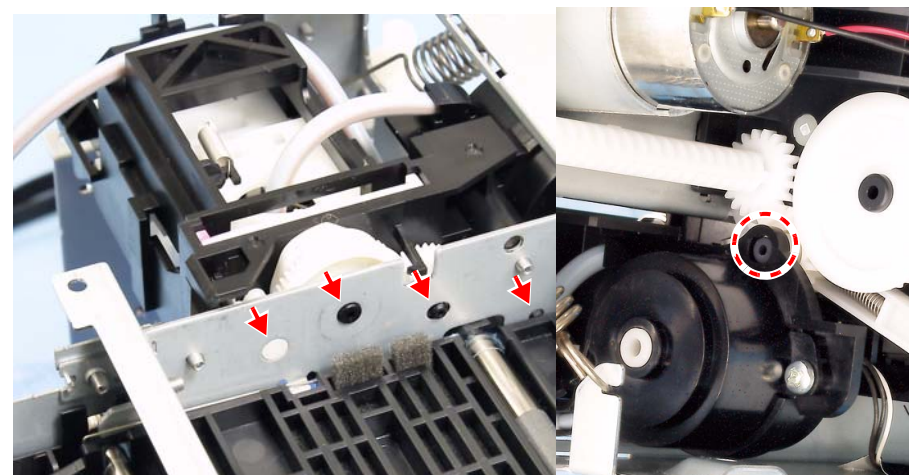

Figure 4-60. Installing the I/S Assy
- After installing the I/S Assy to the printer frame, make sure that its position is adjusted as shown in Fig. 4-60.